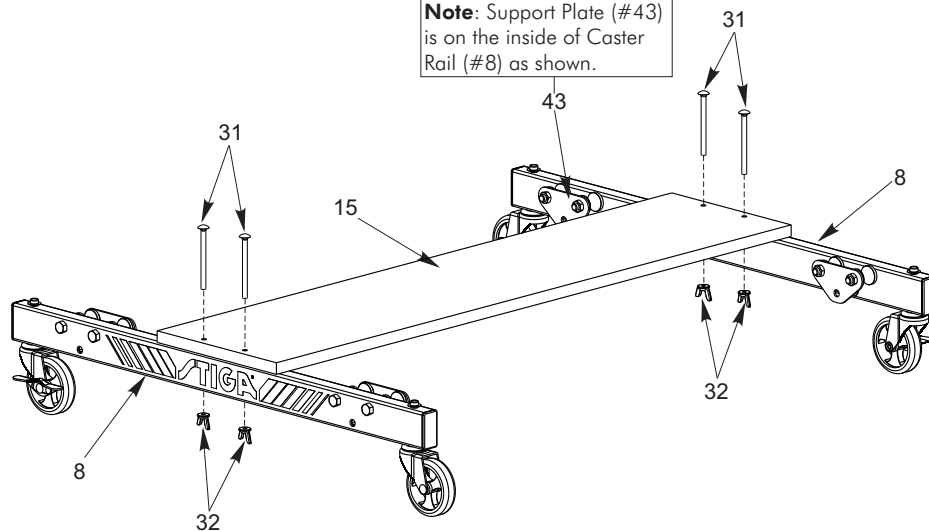

Figure 3
3. Attach Wood Bottom Board (#15) to Caster Beam Assemblies (#8) as shown in **Figure 3**. Turn Caster Beams as shown and attach board with four Carriage Bolts (#31) and four Wing Nuts (#32). Tighten Wing Nuts securely.
2. Loosen Wing Nuts (#32) attached to bolt (#31) in order to create enough slack to align table tops. See Figure 3.